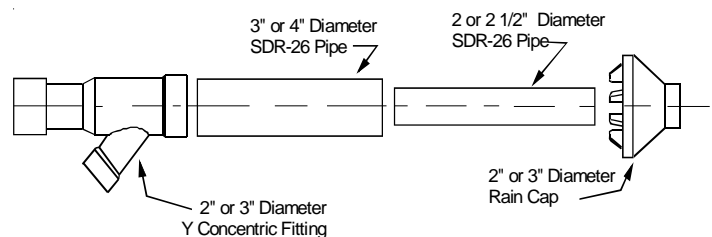

Figure 2
- Cement the Y Concentric fitting to the larger diameter kit pipe (See Figure 2)
- Cement the rain cap to the small diameter kit part (See Figure 2).